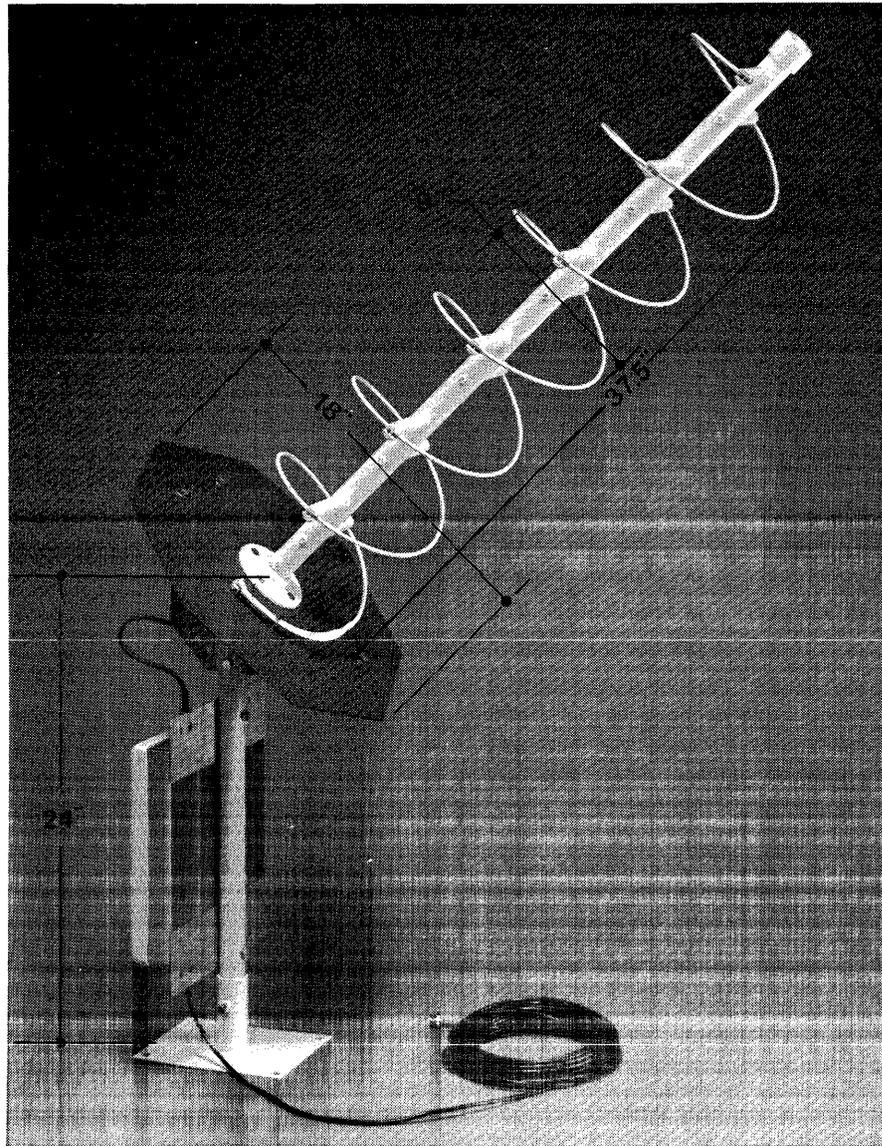

FIGURE 7-3 MODEL A-468HX ANTENNA DIMENSIONS
7-13 A photograph of the assembled MODEL A-468HX, including dimensions, is provided in FIGURE 7-3.
- 3) Remove the shaft and antenna electronics package from the shipping crate. Slip the round end of this shaft into the base. Bolt the antenna electronics package to the shaft with the hardware provided. NOTE: The "N" connector labeled "FROM ANTENNA" must be bolted toward the "flattened" end of the shaft. Refer to FIGURE 7-3.